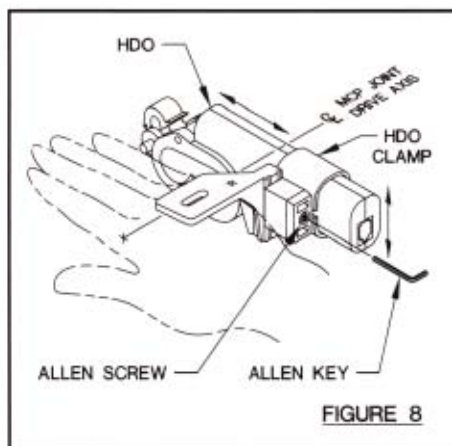

FIGURE 8
- 1 Loosen allen screw on HDO clamp with allen key provided and slide H440 Hand Drive Orthosis into HDO clamp see **Figure 8**.
- 5 Align MCP joint/drive axis of HDO with V digit MCP by loosening allen screw on HDO clamp and sliding HDO proximal/distal and volarly/dorsally see **Figure 8 page 8 & Figure 16**.